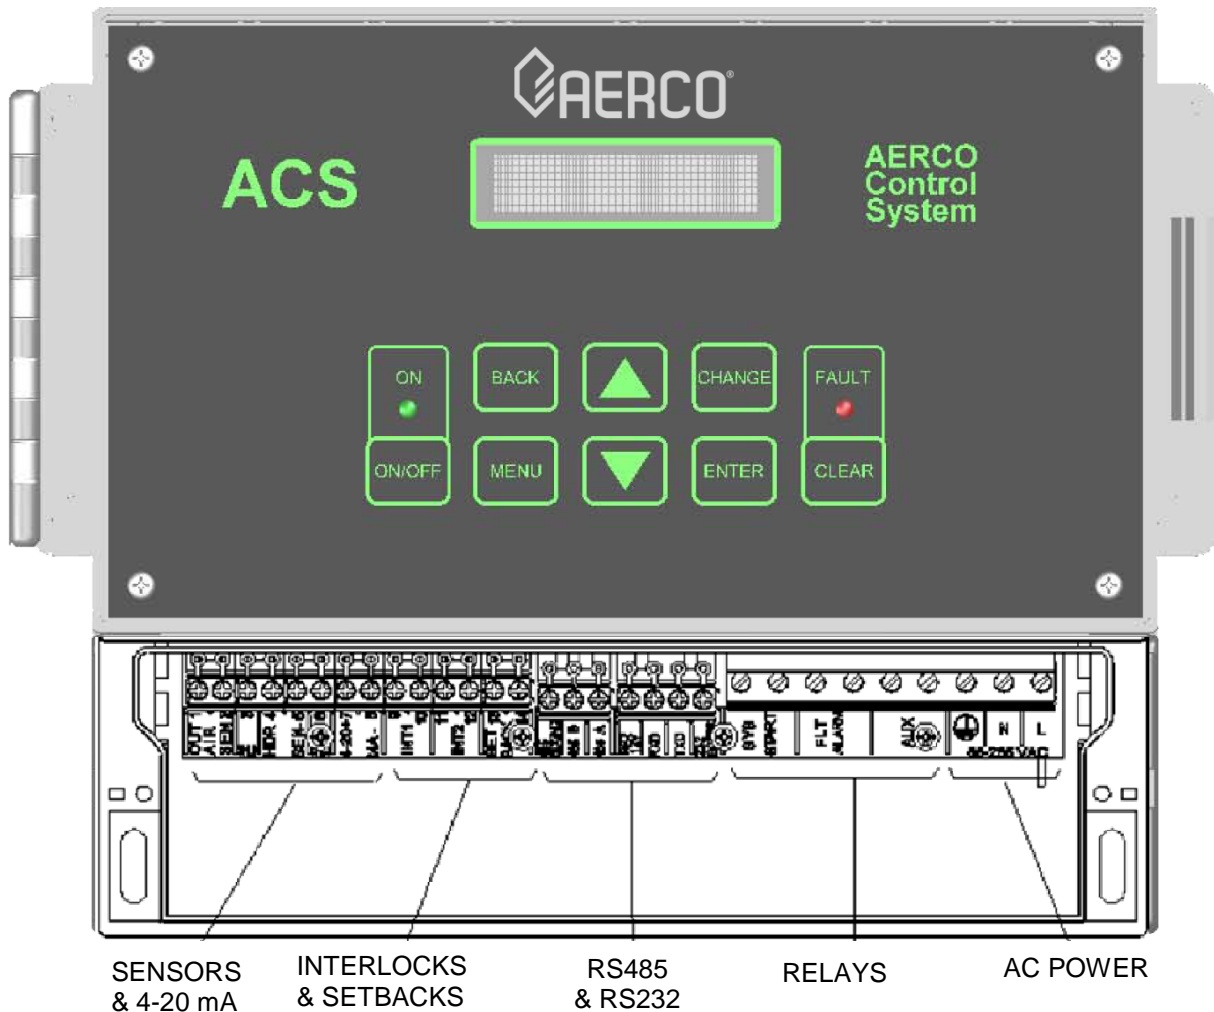

Figure 2-2: ACS with Wiring Compartment Cover Removed
All wiring connections to the ACS are made at the terminals located behind the wiring compartment cover as shown in Figure 2-2. Run all wiring through the knock-outs provided on the bottom surface of the unit. Shielded, twisted-pair cable should be used for sensor and communication wiring. This wiring should be 18 to 24 AWG. Examples of suitable sensor and communication wire are: Belden 9841, 8761, 3105A or equivalent. AC power wiring should be 14 to 18 AWG. The ACS wiring diagram is provided in Appendix E. Once mounting is complete and the ACS is secured in place, loosen the two captive screws on the wiring compartment cover using a Phillips screwdriver. Feed all wiring through the knock-outs provided on the bottom of the panel.
1. Feed the power wiring through the right-most knock-out in the bottom of the panel enclosure (**Figure 2-2**).